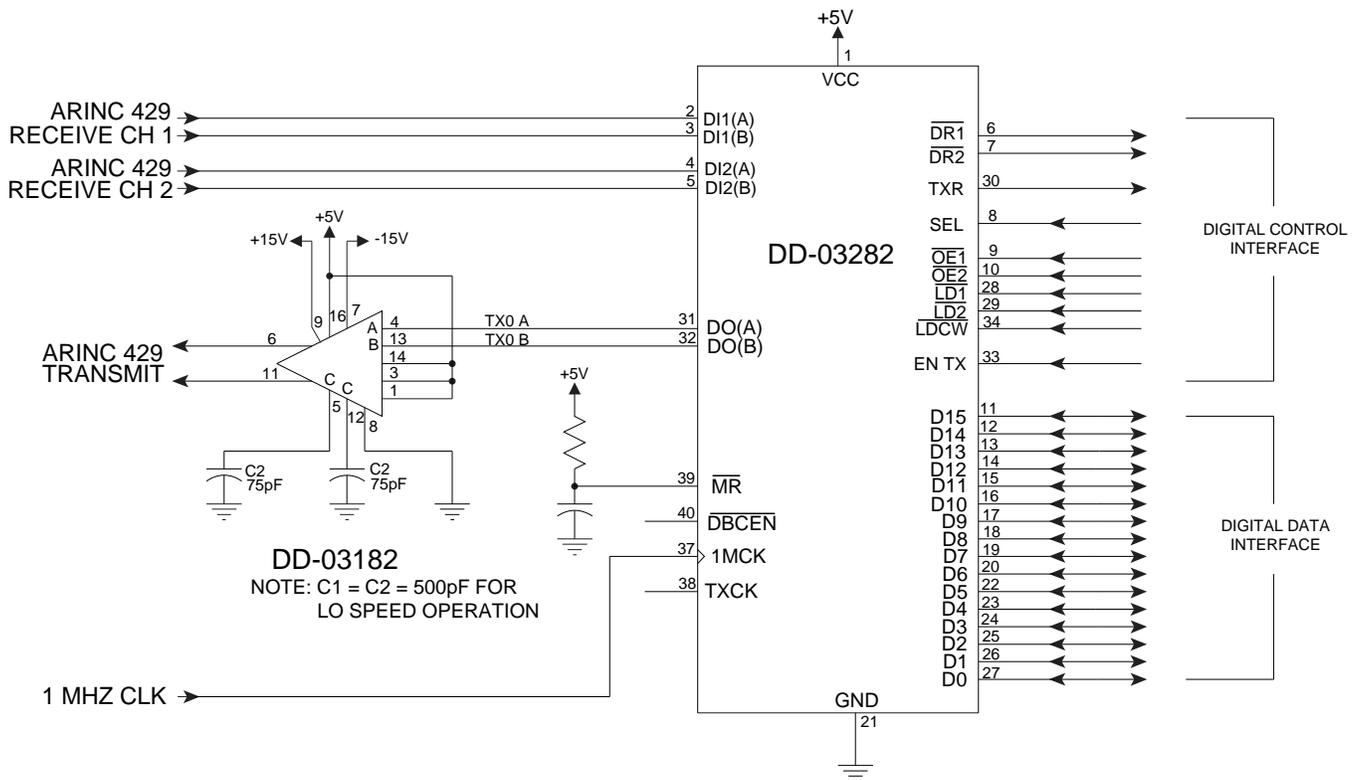

FIGURE 10. TYPICAL TRANSCEIVER/LINE DRIVER INTERCONNECT CONFIGURATION
The receiver signals (DIn (A) and DIn (B) where n=1 or 2) are differential, bipolar, return-to-zero logic signals. FIGURE 10 is an example of how to connect the DD-03282 to the DD-03182 Line Driver. The receive data is normally asynchronous to the transmitter and can also be at a different data rate than the transmitter.
The DD-03282 requires a line driver to put ARINC 429 data on the serial data bus. DDC's DD-03182 ARINC 429 line driver will support ARINC 429, 571, and 575 standards. FIGURE 10 illustrates a typical interconnection configuration between the DD-03282 Transceiver and the DD-03182 ARINC 429 Line Driver. TABLE 7 shows the DD-03182 Line Driver Specifications. Refer to the DD-03182 data sheet for further information about the ARINC 429 Line Driver.